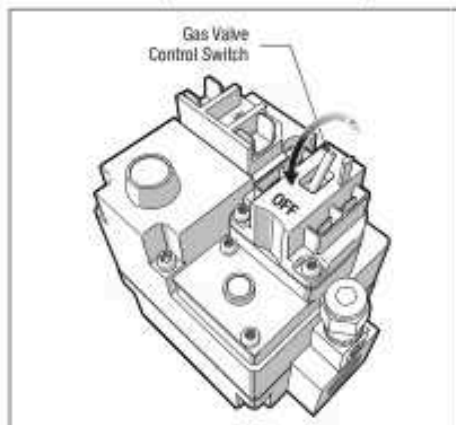

Figure 32. Gas Valve
- Toggle gas control switch to OFF position. See Figure 32.
- Wait five (5) minutes to clear out any gas, then smell for gas, including near the floor. IF YOU SMELL GAS, STOP! Follow instructions in **What To Do If You Smell Gas** (see Section 1.1, Safety Instructions).